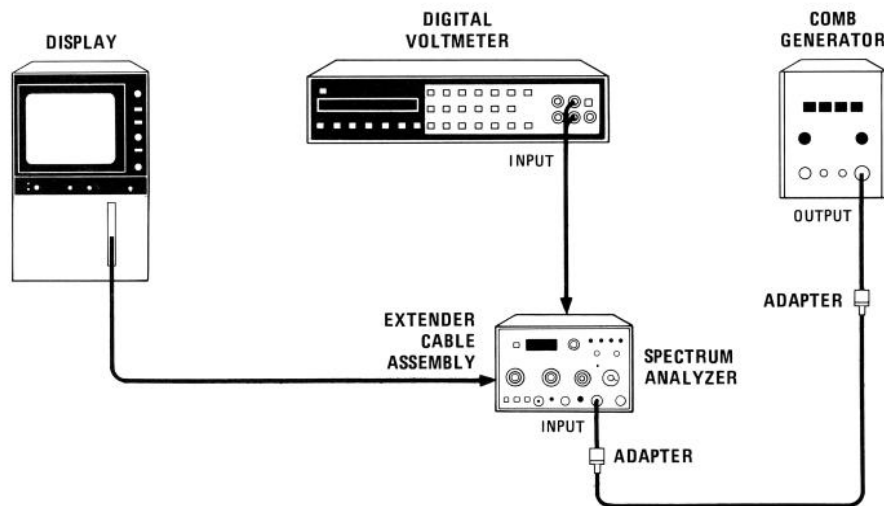

FIGURE 5-15. FREQUENCY CONTROL AND DPM ADJUSTMENTS TEST SETUP
1. Connect equipment as shown in Figure 5-15. Connect digital voltmeter to A7TP7 (located between A7R4 REF V and A7R5 + 14.5V adjustments).